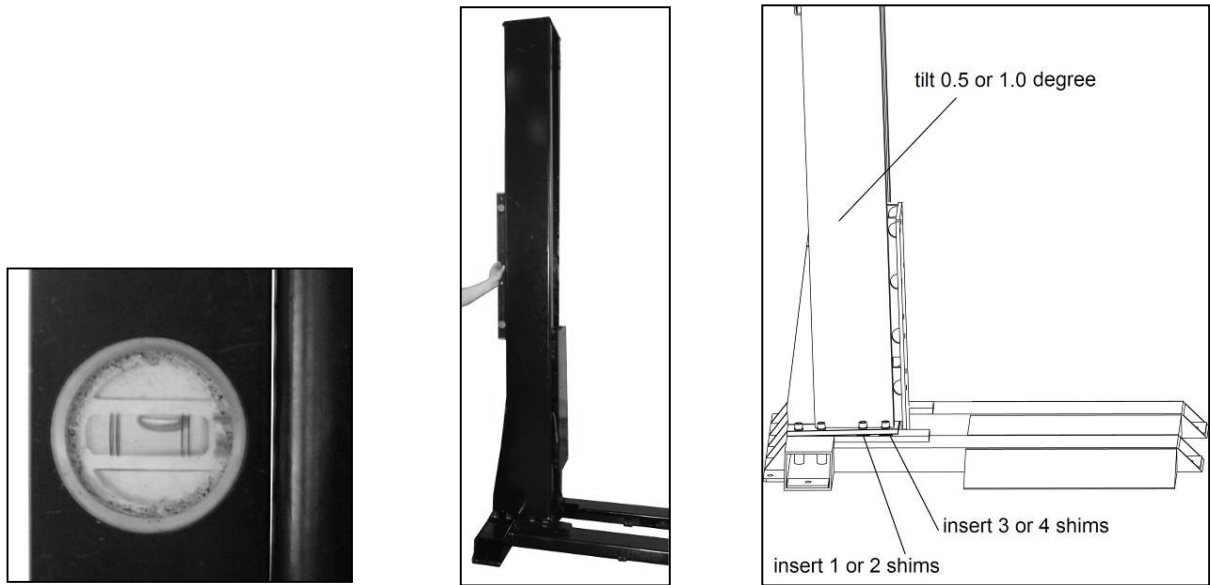

Figure: 5-A, B, C, D Setting up the column (2)
- 6) Damit To ensure that the column is vertical when vehicles are parked on it, a tilt angle of between 0.5° and 1.0° should be set using shims at the base of the column (Fig. 5-A, B, C).